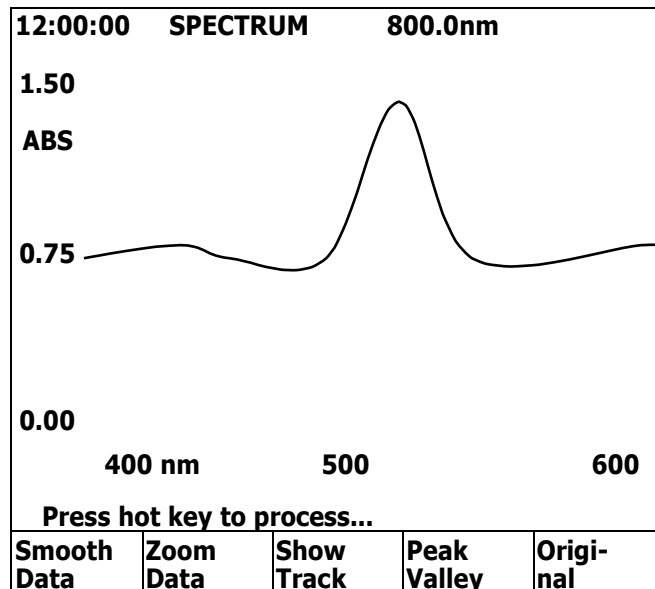

Figure 6.5 Graph with zoomed data
Step 6. If users want to view part of the graph, function Zoom Data is designed for this purpose. Press F2 Zoom Data, then cursor will sequentially move through 1.50 (High Value), 0.00 (Low Value) of the vertical axis and 400 (Start Wavelength), 800 (Stop Wavelength) of the horizontal axis in the graph. Key in the desired value followed by an ENTER key, cursor will move on to the next input position. After all inputs done, the instrument will display a new graph subject to the newly defined parameters (Figure 6.5).